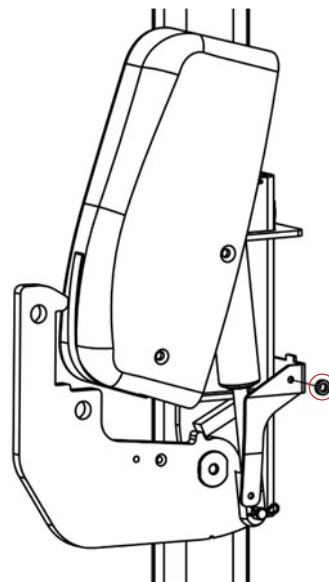

Fig 12.11c
- Refit the hidden spacer that was removed from the position shown in Fig 12.11c. The spacer will sit behind the M5 x 12 mm screw.